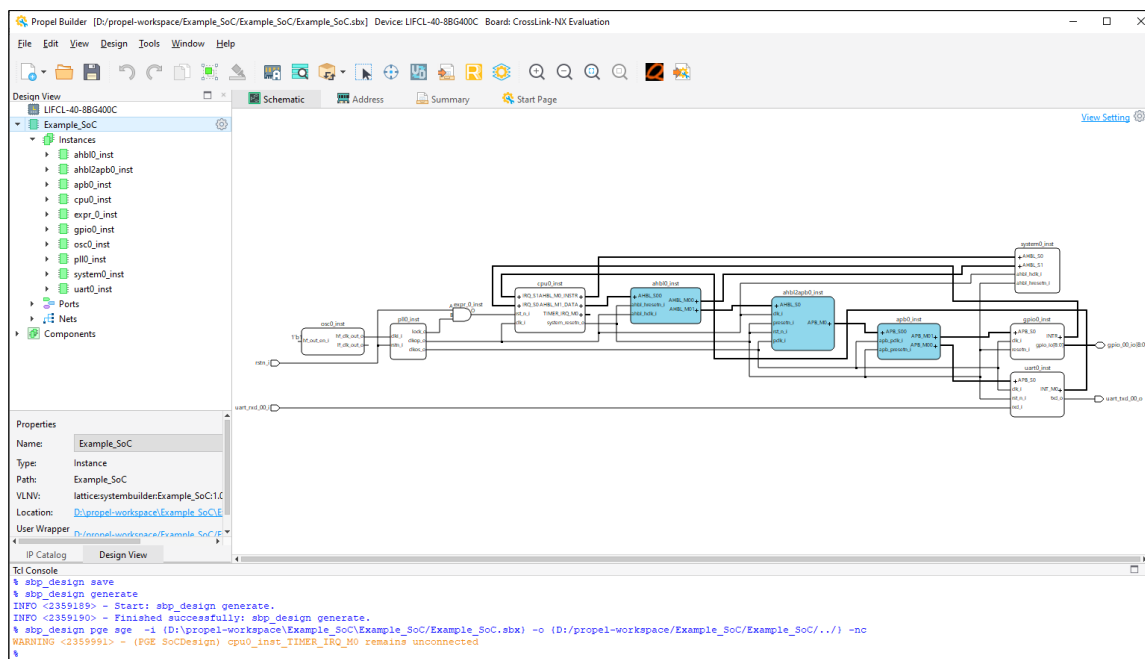

Figure 3.16. Lattice Propel Builder Window
The SoC design project is created in the workbench, and its design is opened and displayed in Lattice Propel Builder (Figure 3.16).
3. The SoC Design is opened and displayed in Lattice Propel Builder (Figure 3.16).